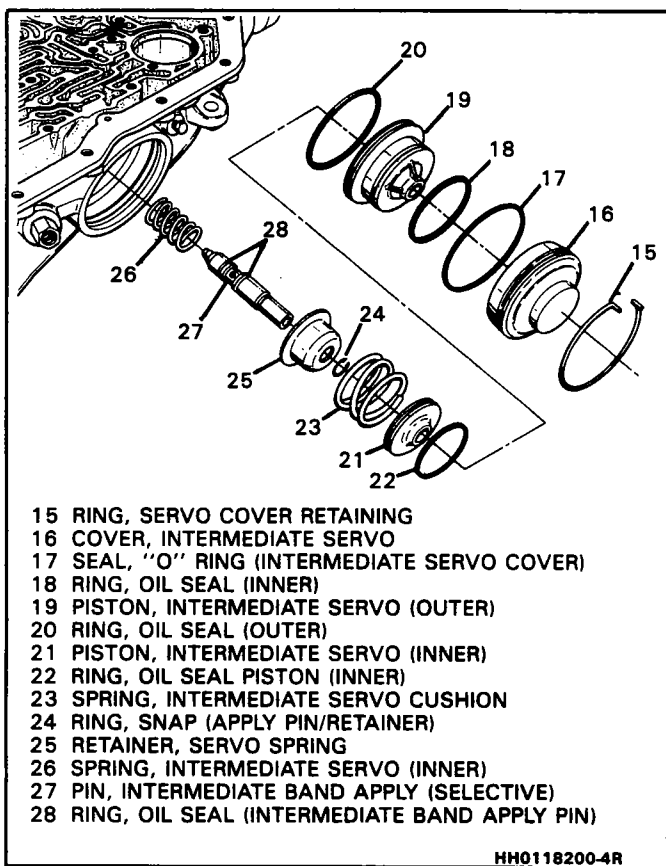

Figure 114 Intermediate Servo Assembly
#### Disassemble (Figure 114)
- Band apply pins oil seals (28) for nicks or cuts
- Band apply pin (27) for:
**✦ Assemble (Figure 114)**
1. Spring (26) and retainer (25).
2. Snap ring (24).
3. Cushion spring (23).
4. Spring retainer (25) and outer (18 and 20) piston seals as shown.
5. Inner (21) and outer (19) servo pistons onto the band apply pin (27).
6. Compress spring (23).